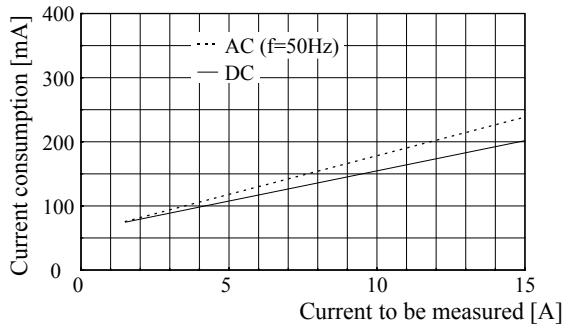

Figure 4. Typical probe consumption
- Do NOT measure current such that the total probe current consumption exceeds the allowable AutoProbe interface current consumption. The excess current consumption causes a temporary shutdown of the Infiniium power supply for safety. Quit the measurement and cycle the power of the Infiniium, if the shutdown occurs. The typical probe current consumption from the AutoProbe interface is shown in figure 4.